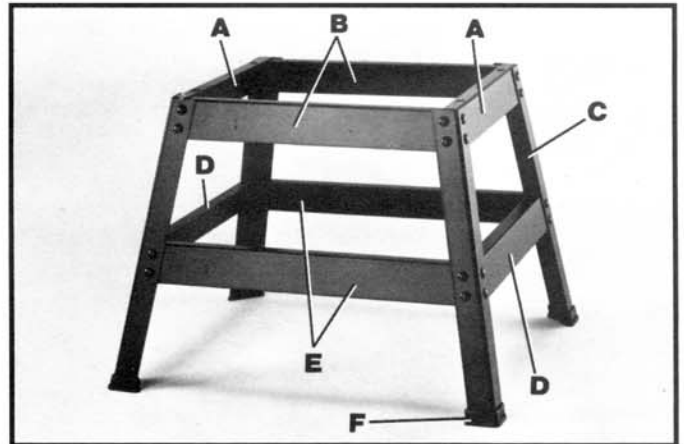

Fig. 4
1. Assemble the two top side braces (A) Fig. 4, which are 16-1/2" long, and the two top front and rear braces (B), which are 19" long, to the four legs (C) using the sixteen 5/8" long carriage bolts, flat washers and hex nuts supplied. **NOTE:** The top lips of the two top side braces (A) must fit on top of the top lips of the front and rear braces (B). The side braces (A) have holes on top for mounting the saw to the stand. Only tighten hex nuts finger-tight at this time.
2. Assemble the two bottom side braces (D) Fig. 4, which are 20" long, and the two front and rear braces (E), which are 22-1/2" long, to the four legs (C) using the sixteen 5/8" long carriage bolts, flat washers and hex nuts supplied. Only tighten hex nuts finger-tight at this time.
3. Assemble the four rubber feet (F) Fig. 4, to the bottom of each leg (C) as shown.